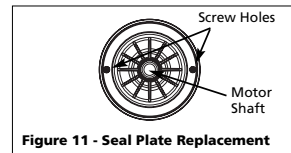

Figure 11 - Seal Plate Replacement
2. Carefully slip seal plate over shaft. Do not disturb seal position in seal plate. The seal plate must be orientated during assembly so the two screw holes are on a horizontal line across the motor shaft and the (4) locating pins on the back of the seal plate line up with the tabs on the motor housing (Figure 11). This placement should be done to ensure proper draining and priming.